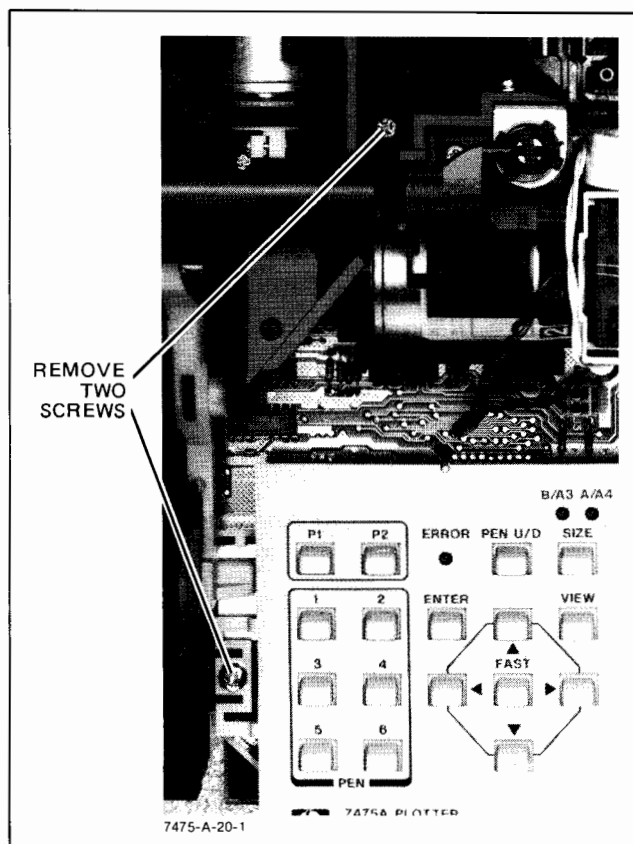

Figure 6-18. Chassis Assembly Removal
- d. Remove the screw holding the front panel, and remove the panel. See Figure 6-18.
- e. Remove the recessed screw between the pen solenoid and the pen drive motor. See Figure 6-18.